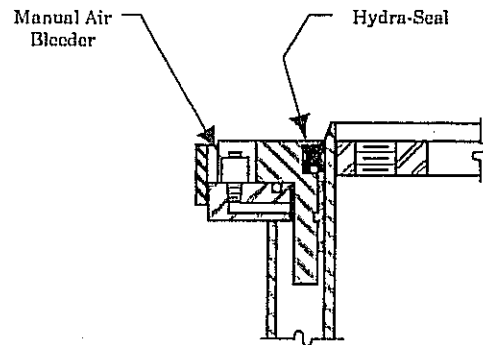

Fig. 8
- C. Open air bleeders in jacks 2 full turns. See Fig. 8. Close bleed screws when constant stream of oil appears.
NOTE: Refer to page 4, Figs. 8 & 9 for manual bleeder and fill plug detail.